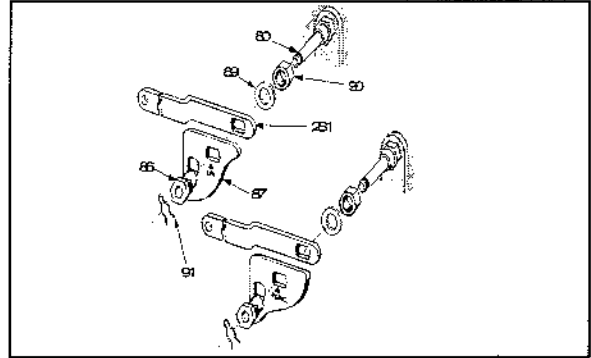

Figure A1 - Mounting cam - rear lever S/A
- The mark (LIN or PERC) which appears on the visible side of the cam (87) when it is mounted must correspond to the chosen flow characteristic (linear or equal percentage). This mark must also indicate the rotation axis of the cam (see figures A1, A5, and A7).
- Reassemble cam and rear lever in the proper position and tighten firmly the nut (90). Replace this subassembly on bearing post (80) being careful to place correctly the bearing lever (82) relating to the cam (87) and the external lever (32). Replace the retaining clip (91) (see figures A1, A4, A5, and A7).